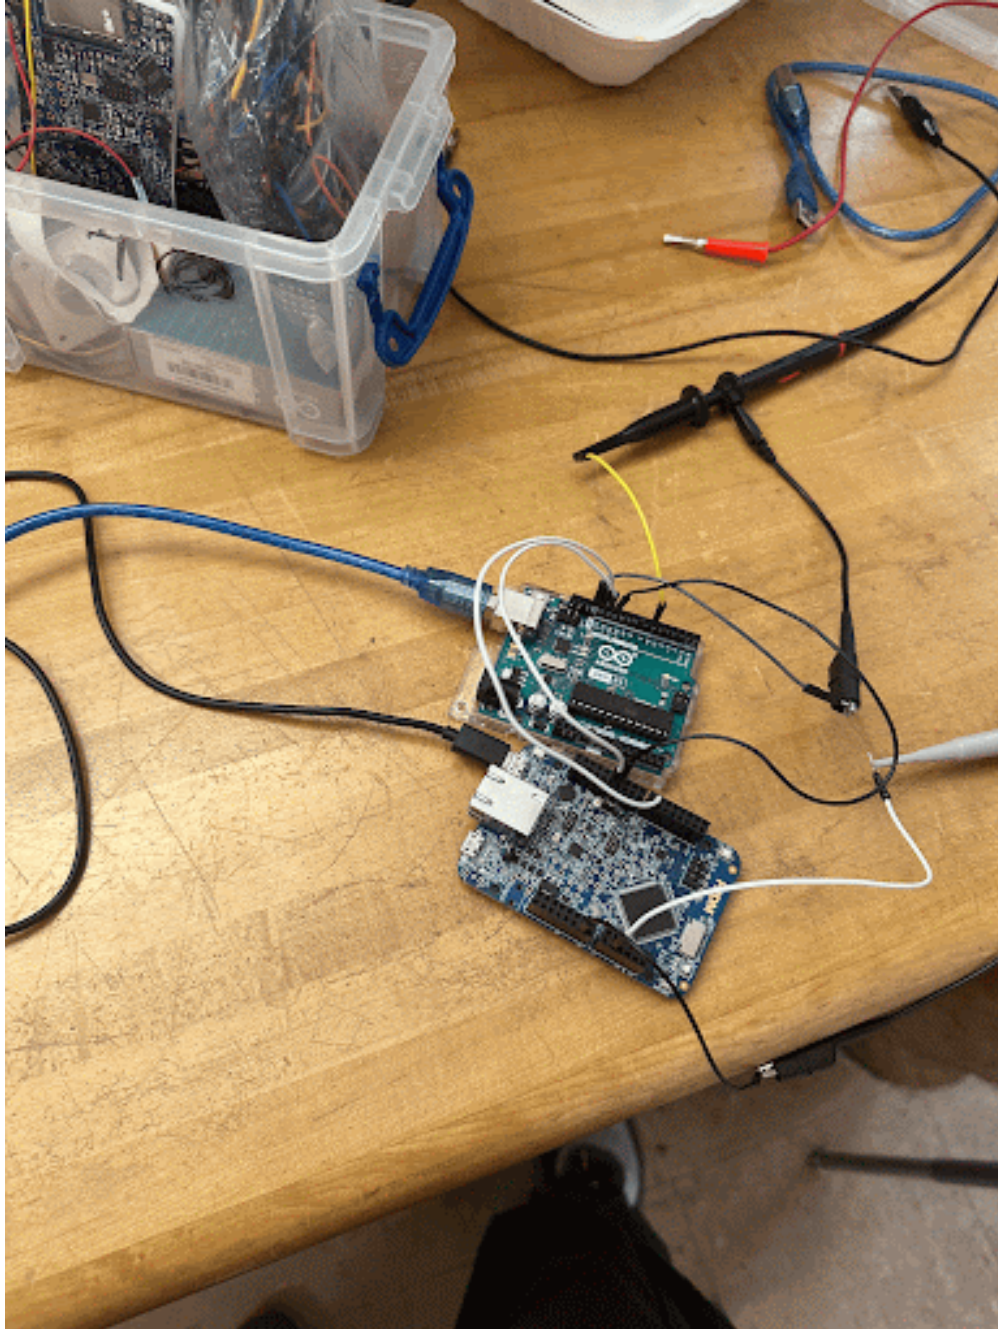

Figure 1
- **Figure 1:** Circuit configuration for Arduino Uno and K64F sensor interface